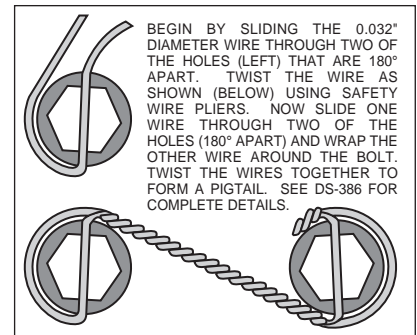

Figure 4. Safety Wire Diagram
using washers (13) and bolts (14). Torque bolts (14) to 85 **in-lb**. Safety wire bolts (14) using standard 0.032 inch diameter stainless steel safety wire as shown in Figure 4. Please refer to Wilwood's data sheet DS-386 (available at www.wilwood.com/Pdf/DataSheets/ds386.pdf) for complete safety wire installation instructions.
- Slide the rotor/hat assembly over the studs (7) in the hub (8) taking care to align the small countersunk holes in the hat (12) with the small threaded holes in the hub (8). Install three flat head socket screws (15) through the small holes in the hat (12) and torque to 85 **in-lb**.
- Pack the small outer bearing cone (16) with high temperature disc brake bearing grease and install into front of hub (8). Slide the hub/rotor assembly (8 and 11) with outer bearing cone (16) onto the spindle. Secure using spindle washer (17), stock adjusting nut and nut locking device. Adjust bearings per Original Equipment Manufacturer (OEM) specifications.
- Install the dust cap (18) and o-ring (19) onto the hub (8). Friction created by the o-ring (19) on the dust cap (18) keeps it from unscrewing.
- NOTE:** Please reference the caution statement at the beginning of the assembly instructions. With the bleed screws pointing up, mount the caliper (20) onto the caliper bracket (1) using flat washers (21), lock washers (22), bolts (23) and shim washer (21) positioned between caliper and bracket. Finger tighten. View the rotor (11) through the top opening of the caliper (20). The rotor (11) should be aligned in the center of the caliper (20). If not, adjust the caliper (20) by using 0.032 inch thick shims (21) placed between the caliper mounting bracket (1) and the caliper (20). Finger tighten and recheck alignment. Apply red *Loctite*® 271 to bolt threads (23) and torque to 47 ft-lb.
- Remove the caliper bridge spacer and bolt, then install the disc brake pads (24), then reinstall the caliper bridge spacer and bolt.